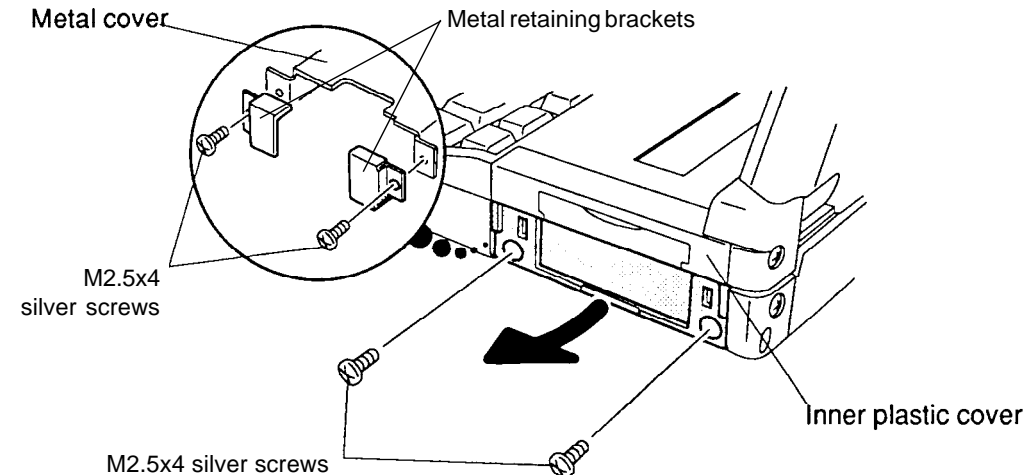

Figure 4-7 Removing the Inner Plastic PCMCIA Cover
6. Remove the **two M2.5x4 silver screws** on the slot's **inner plastic cover**. Grasp the bottom of the inner plastic cover and pull it in the arrow's direction to remove (Figure 4-7).
7. If optional **metal retaining brackets** are installed, remove the two **M2.5x4 silver screws** securing them to the **metal cover** (Figure 4-7).
9. Remove the **two M2.5x4 silver screws** on the slot's **inner plastic cover**. Grasp the bottom of the **inner plastic cover** and pull it in the arrow's direction to remove (Figure 4-7).
2. To install a PCMCIA card in slot 1, carefully insert the card, making sure the card is right side up and the contact surface is inserted first. If necessary, replace the optional **metal retaining brackets** and secure them with **two M2.5x4 silver screws** (Figure 4-7).
3. Snap on the **inner plastic cover** and secure it with **two M2.5x4 silver screws** (Figure 4-7).